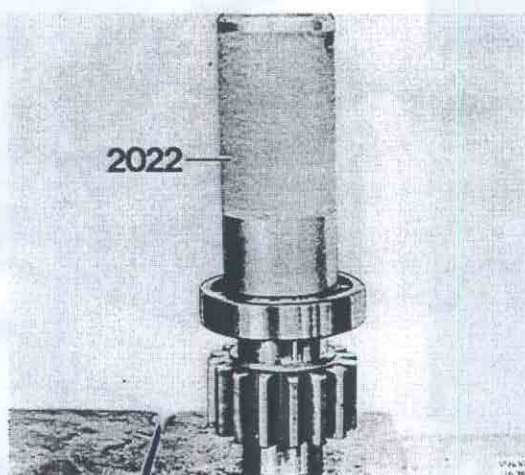

Fig. 46-100. Pressing on the bearing
1. Press the ball bearing on the gear wheel with 2022, Fig. 46-100. Fit the circlip.